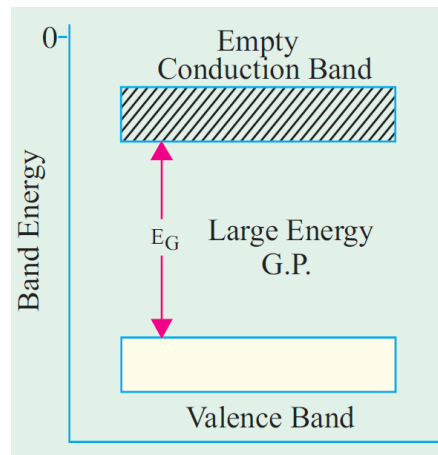

Figure2. Energy Bands in Insulators
- This is shown in the below Figure 2.